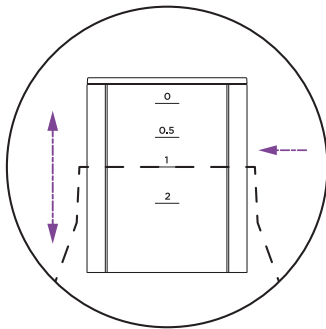

fig. 18
2. Adjust the regress depth using the indicators (see fig. 18).